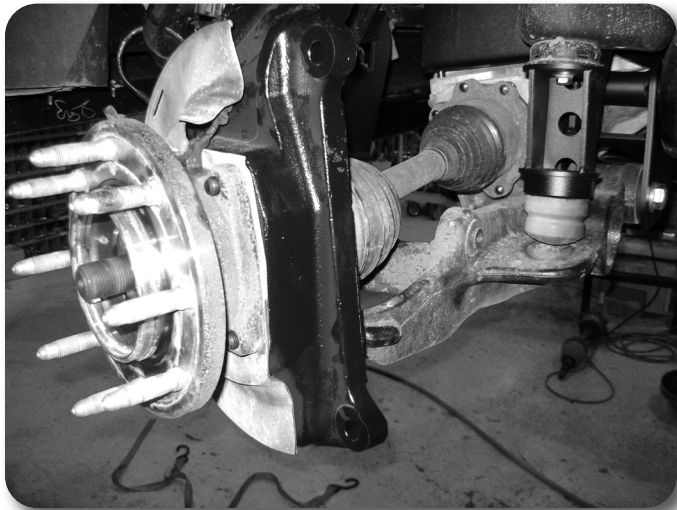

Figure 40
57. Locate the factory CV axle shafts. Install the CV axle into the hub assembly **Figure 40** and then onto the differential output flange. Align the differential flange holes and fasten with the factory bolts. Apply Loctite to the threads and torque to 40 ft-lbs.